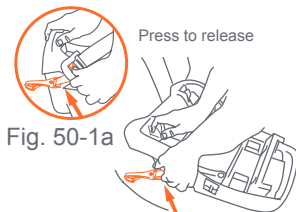

Fig. 50-1a
8. To remove the base from the vehicle, squeeze the webbing release button on the **LATCH** connector to loosen the webbing (Fig. 50-1a). Please note that the **LATCH** connector can not be released from the **LATCH** anchor if the webbing is tight. Press the **LATCH**